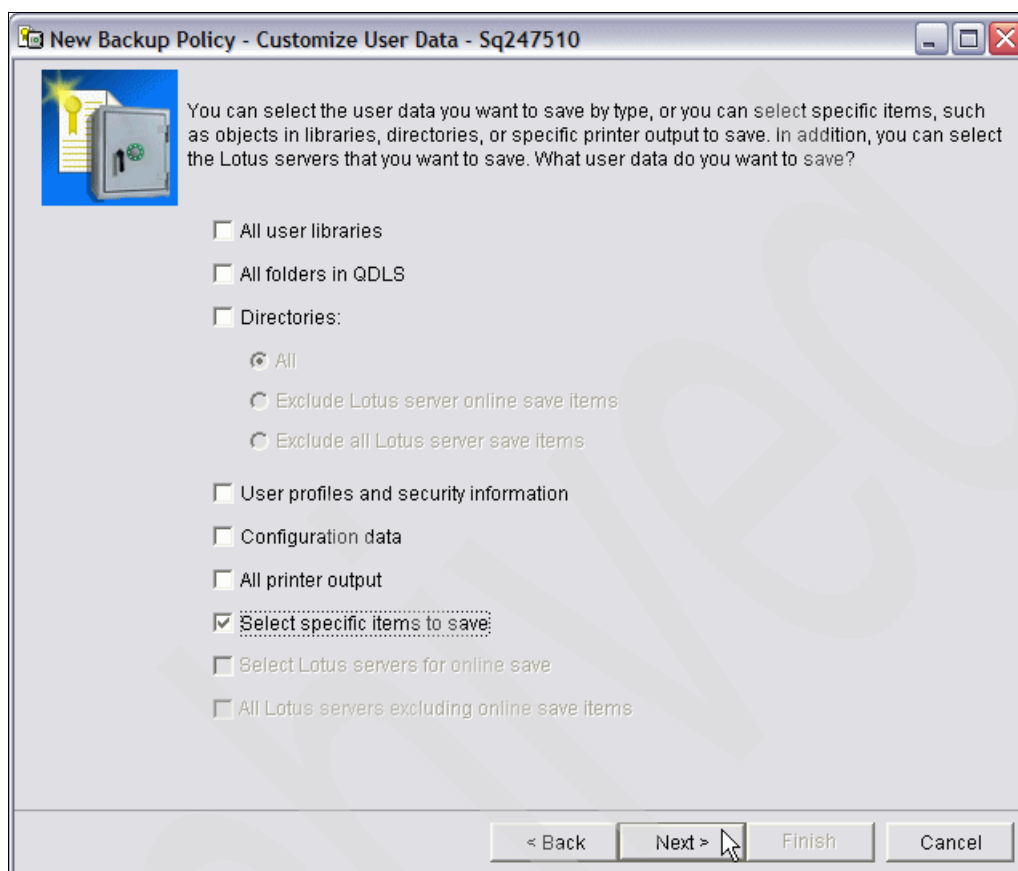

Figure 6-49 New Backup Policy - Customize User Data
7. We must specify which of our own data we want to save using the window shown in Figure 6-49.